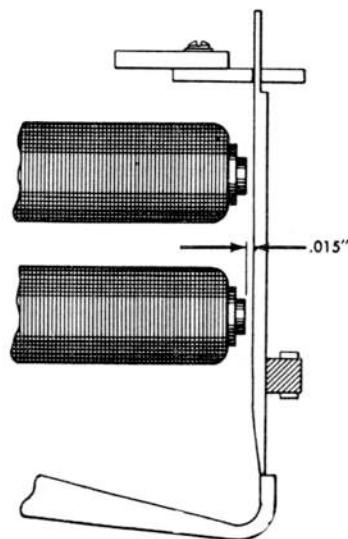

Figure 12. Armature-to-Core Clearance (De-energized)
1. The clearance between the lower magnet core and the armature should be .015" when the armature is latched on its drive rod lever. When an adjacent armature is removed, this clearance may be easily checked. Adjust by forming the armature (Figure 12).